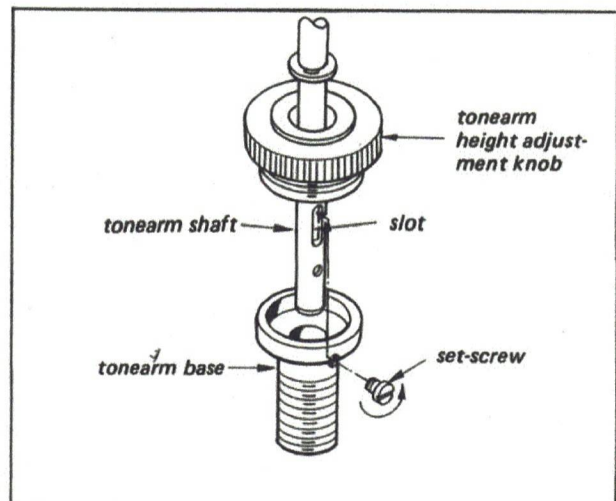

Fig. 2-14. Tonearm base removal
2. Remove the set screw by turning it counterclockwise as shown in Fig. 2-14.
4. When reassembling the base, care should be taken that the set screw meets with the slot on the tonearm shaft as shown in Fig. 2-14.